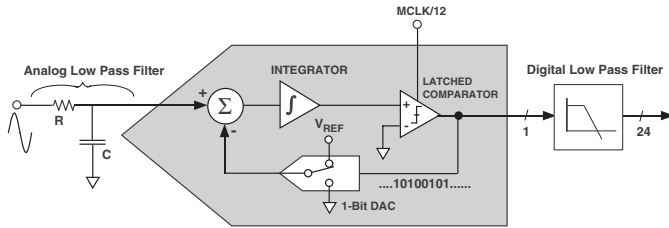
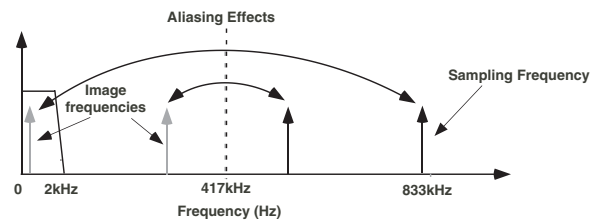

Figure 5 - First order Sigma-Delta ($\Sigma-\Delta$) ADC
Figure 7— ADC and signal processing in current channel or voltage channel
The analog-to-digital conversion in the ADE7754 is carried out using second order sigma-delta ADCs. The block diagram in Figure 5 shows a first order (for simplicity) sigma-delta ADC. The converter is made up of two parts, first the sigma-delta modulator and secondly the digital low pass filter.
Figure 5 also shows an analog low pass filter (RC) on the input to the modulator. This filter is present to prevent aliasing. Aliasing is an artifact of all sampled systems. Basically it means that frequency components in the input signal to the ADC which are higher than half the sampling rate of the ADC will appear in the sampled signal at a frequency below half the sampling rate. Figure 7 illustrates the effect, frequency components (arrows shown in black) above half the sampling frequency (also know as the Nyquist frequency), i.e., 417kHz get imaged or folded back down below 417kHz (arrows shown in grey). This will happen with all ADCs no matter what the architecture. In the example shown it can be seen that only frequencies near the sampling frequency, i.e., 833kHz, will move into the band of interest for metering, i.e, 40Hz - 2kHz. This fact allows us to use a very simple LPF (Low Pass Filter) to attenuate these high frequencies (near 900kHz) and so prevent distortion in the band of interest. A simple RC filter (single pole) with a corner frequency of 10kHz produces an attenuation of approximately 40dB at 833kHz—see Figure 7. This is sufficient to eliminate the effects of aliasing.